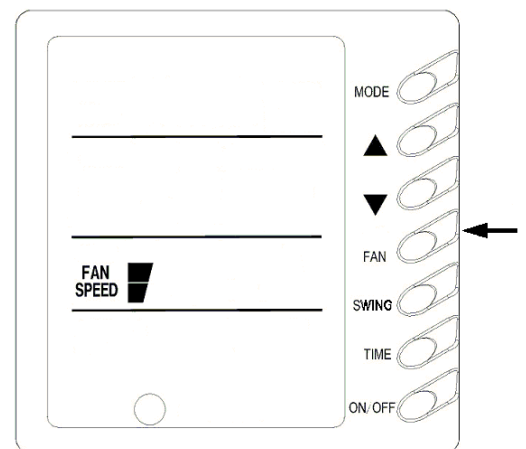

Fig.5
2) Fan Control (Fig.5 is about display region and the same as following figures.)